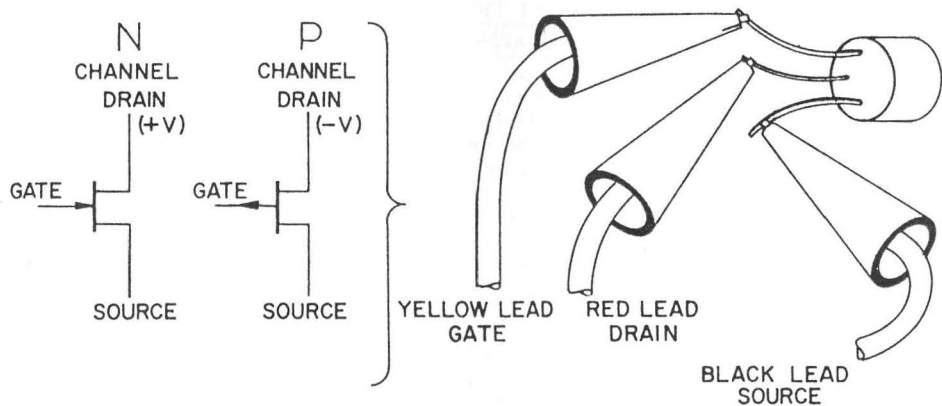

Figure 5. Connecting To A Field Effect Transistor For In-Circuit And Out Of
1. Connect the Source, Drain, and Gate leads as shown in figure 5 or 6. The blue lead is connected to the second gate of dual gate FETs. (See the section on dual gate field effect transistors when testing these devices).
4. Rotate the G_m ZERO control until the meter reads zero (0) and then depress the GAIN button and read the top scale of the meter directly in micromhos.